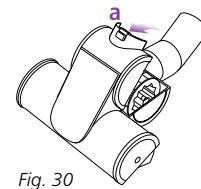

Fig. 30
- Slide the locking latch (a) forward and gently tilt brush housing upward to open. (Fig. 30)